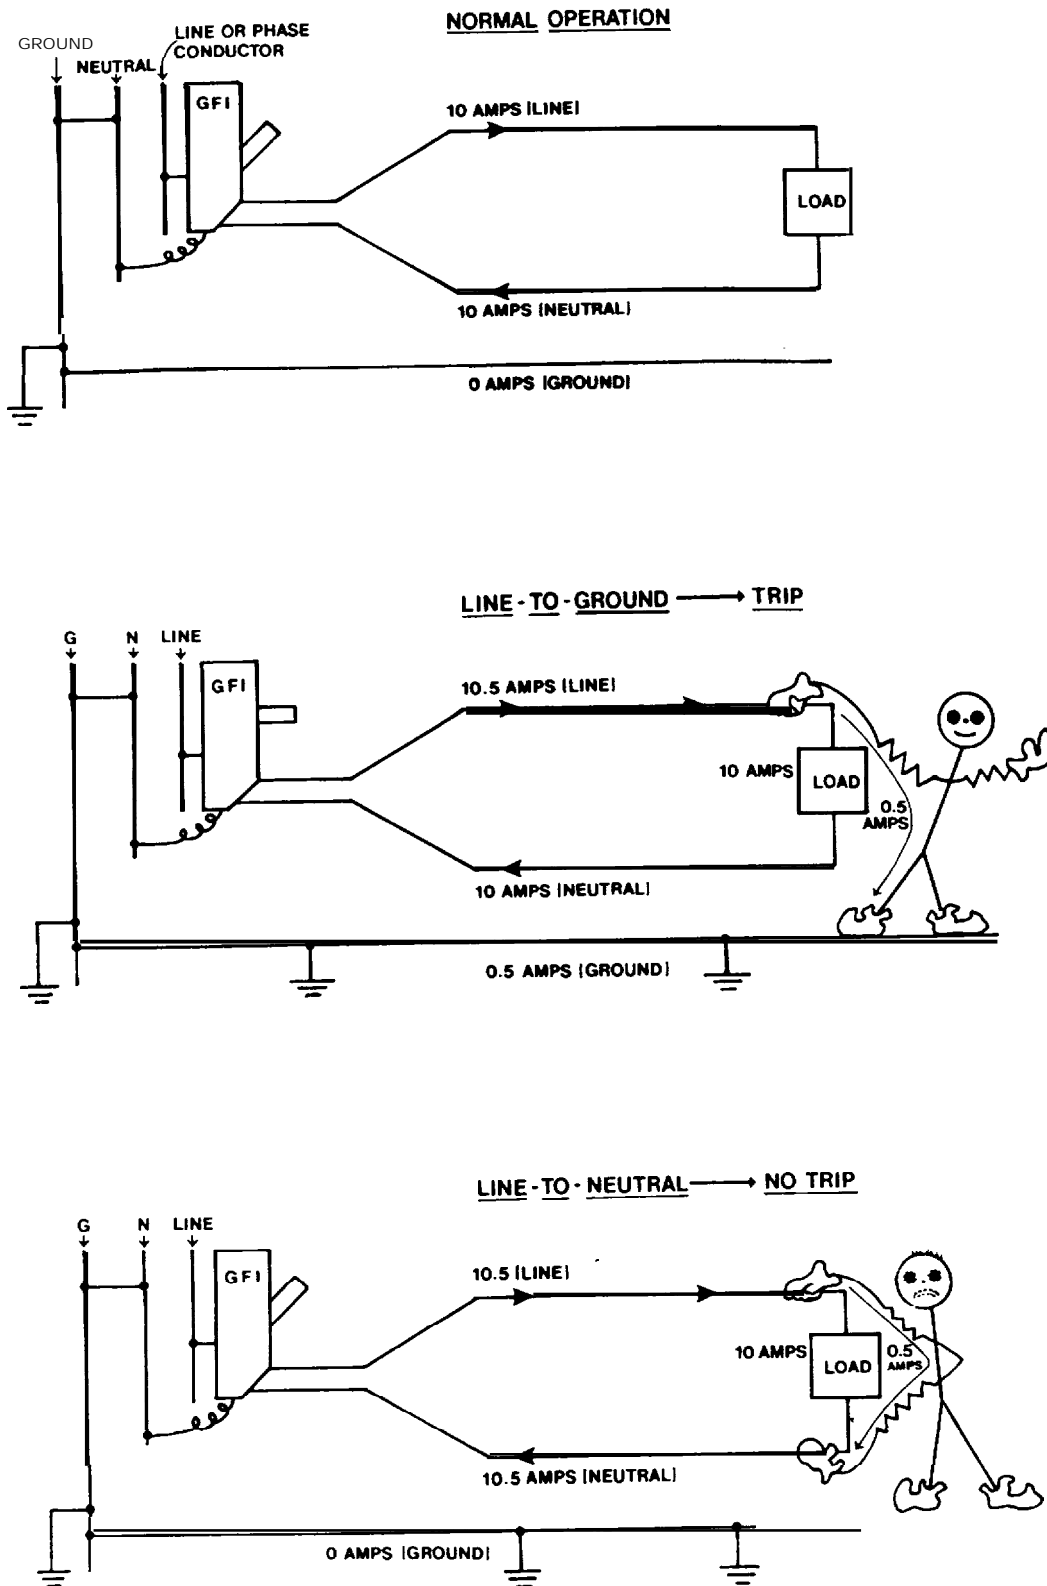

Figure 8-7. Ground fault circuit interrupter operation.
b. *Ground fault protectors (GFP).* A GFP is designed to limit damage to electrical equipment in the event of a fault (either solid or arcing) between a live part of the protected circuit and ground. A GFP will cause the circuit to be disconnected when a current equal to or higher than its setting flows to ground (fig 8-7). GFPs are available with settings typically ranging from five to 1200 amperes. It will not protect personnel from electrocution. A GFP system is designed to be installed in a grounded distribution system. It consists of three main components: sensors; relay or control unit; and a tripping means for the disconnect device controlling the protected circuit. Detection of ground-fault current is done by either of two basic methods. With one method, ground current is detected by sensing current flow in the grounding conductor. With the other method, all conductor currents are monitored by either a single large sensor, or several smaller ones. Sensors are generally a type of current transformer and are installed on the circuit conductors. The relay or control unit maybe mounted remotely from the sensors or maybe integral with the sensor assembly. Circuit breakers with electronic trip units may have a GFP system integral with the circuit breaker. Any maintenance work performed on the electronic circuitry should adhere to manufacturer's instructions. Maintenance on the mechanical operating mechanism components should be performed as recommended in chapter 5. Maintenance requirements for the sensors are as specified in chapter 2 for instrument transformers. Tighten all terminal connections and clean. Any repairs needed should be performed by the manufacturer. If interconnections between components are disconnected, they must be marked and replaced to maintain the proper phasing and circuitry. If the system is